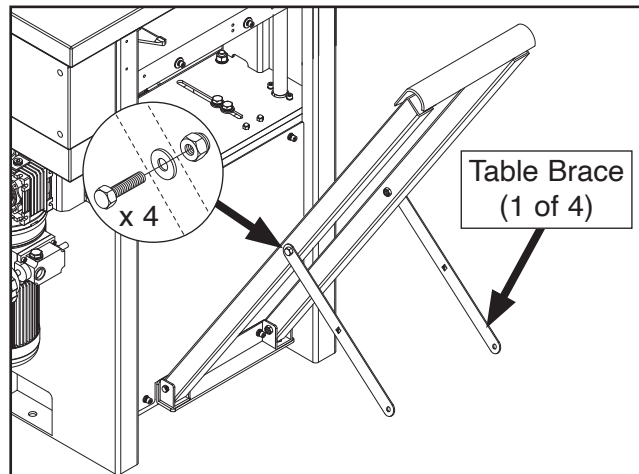

**Figure 10.** Table braces attached to table supports (outfeed end shown).
4. Loosely attach (4) table braces to table supports with (4) M10-1.5 x 60 hex bolts, (4) 11 x 25 x 3.5mm spacers, and (4) M10-1.5 lock nuts (see **Figure 10**).